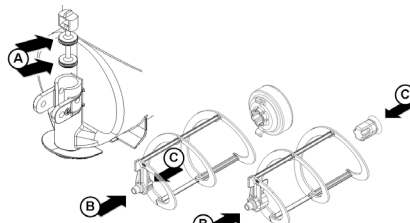

figure 11
- 2** Lubricate faucet piston, outer spiral and outside magnetic rotor (see points A, B and C of figure 11) only with the grease supplied by the manufacturer or other **food grade approved** lubricant.